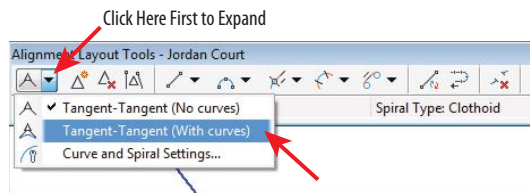

FIGURE 5.3 Selecting the **Tangent-Tangent (With Curves)** command
5. On the **Alignment Creation Tools** toolbar, click the black triangle on the first button on the left to expand it downward (see Figure 5.3). Then click **Tangent-Tangent (With Curves)**.